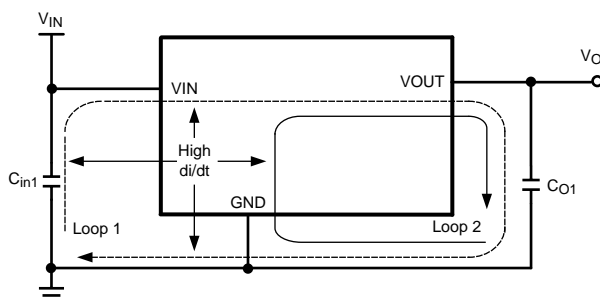

Figure 52. Critical Current Loops to Minimize
From an EMI reduction standpoint, it is imperative to minimize the high di/dt paths during PCB layout as shown in Figure 52. The high current loops that do not overlap have high di/dt content that will cause observable high frequency noise on the output pin if the input capacitor ( $C_{IN1}$ ) is placed at a distance away from the LMZ22005. Therefore place  $C_{IN1}$  as close as possible to the LMZ22005 VIN and PGND exposed pad. This will minimize the high di/dt area and reduce radiated EMI. Additionally, grounding for both the input and output capacitor should consist of a localized top side plane that connects to the PGND exposed pad (EP).